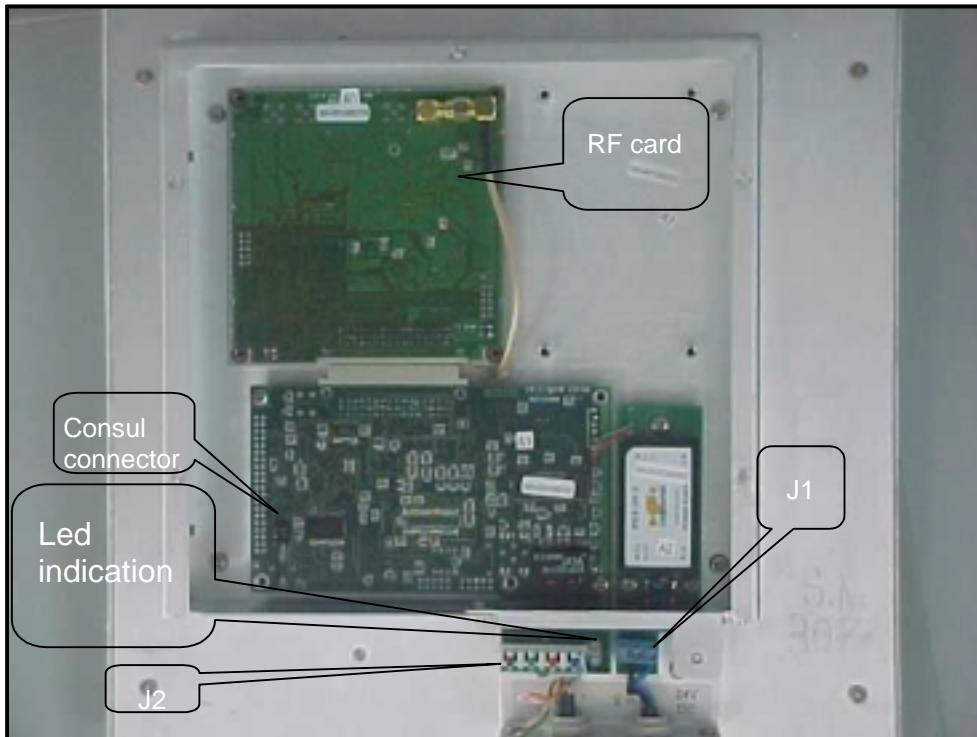

Figure 6. CPE LED locations
1. Open the cover of the CPE box so that you can see the indicators shown in Figure6, page18.
The outdoor unit has 3 LEDs with different color as shown in Figure6. Table5 describes the LED indicators.
Connect the consul cable to the consul connector (see figure 6)